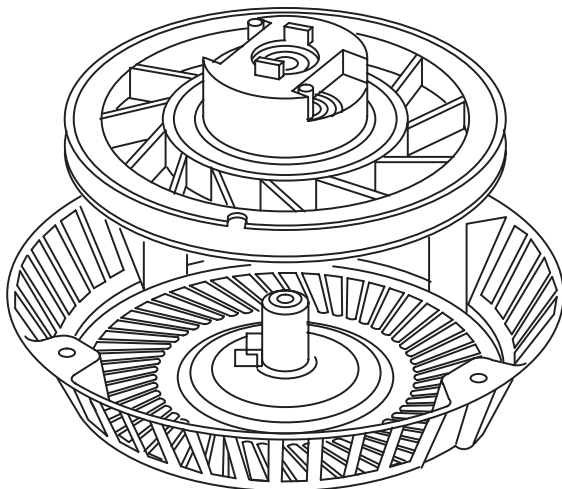

Fig. 73 – Removing Pulley
4. Carefully lift out pulley with spring, Fig. 73.